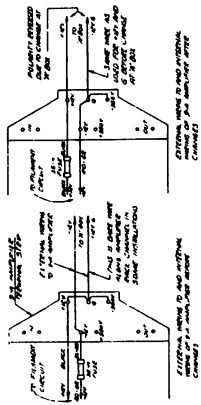

FIG. 1
5.1 This modification consists of rearranging the wiring at the terminal strip, placing the ground on the negative side of the 12V. supply rather than the positive side and the 35-H Fuse in the positive side. Refer to Fig. 1 for procedure.